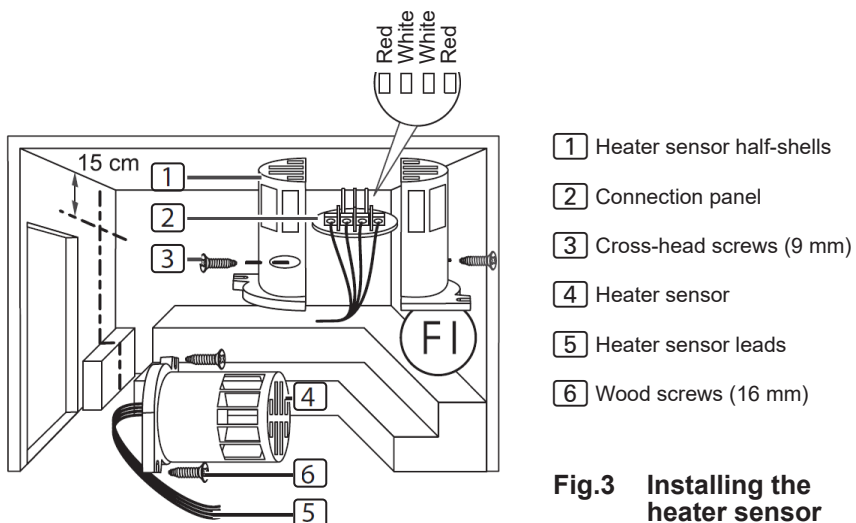

Fig.3 Installing the heater sensor
To install the heater sensor, perform the following steps (see **Fig.3**):
3. Connect the four connections for the heater sensor cable **5** in accordance with the **Fig.3**.
4. Place the connection panel **2** crossways (as shown in **Fig.3**) in the heater sensor half-shells.